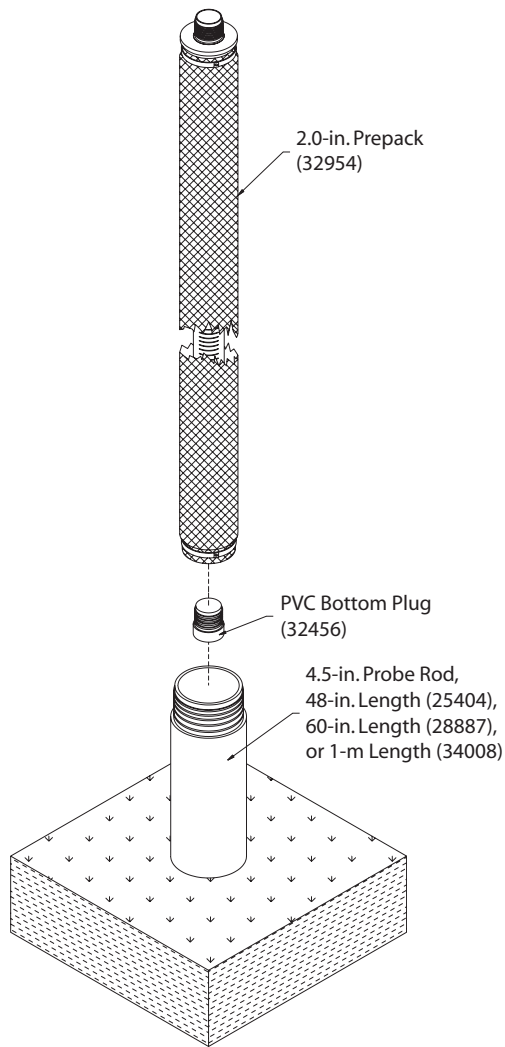
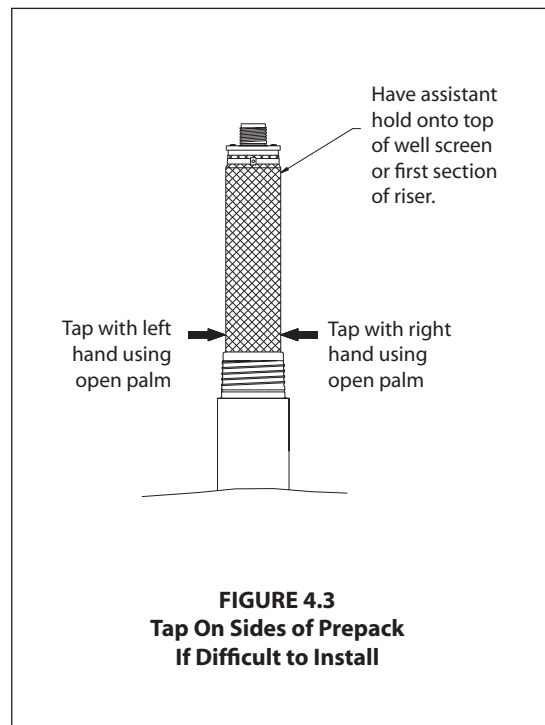

FIGURE 4.2
FIGURE 4.3
2. Thread a PVC Bottom Plug into a 2.0-inch prepack (Fig. 4.2).
- Leading with the bottom plug, insert the prepacked screen assembly into the probe rod string as shown in Figure 4.2. If the prepack does not slide easily into the rods, do not force it. With the lower end of the prepack in the probe rod, tap the screen simultaneously with both hands using a clapping motion (Fig. 4.3). With this technique, the screen will drop by gravity into the probe rods. Have an assistant hold onto the top portion of the screen to prevent the screen from unexpectedly falling downhole.